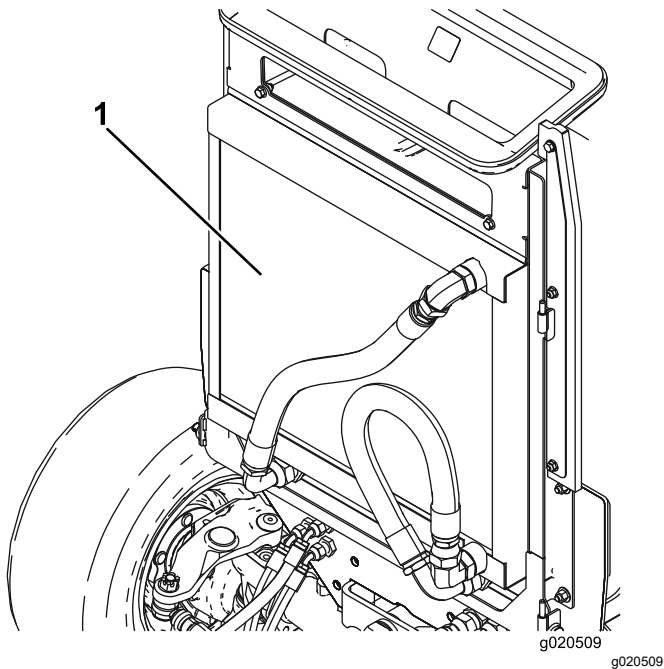

Figure 74
5. Thoroughly clean both sides of the oil cooler and the radiator with compressed air (Figure 74).